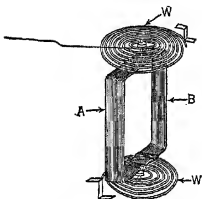
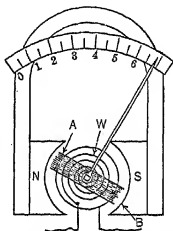

FIG. 246. Diagram showing coil *AB*, springs *W* and pointer of electrical measuring instrument.
FIG. 247. Diagram showing essential parts of milliammeter.
**133. The Milliammeter.** One type of current-measuring instrument operates on the same principle as the electric motor. In Figs. 246 and 247, the permanent horseshoe magnet with poles *N* and *S* supplies the field and a few turns of fine wire *AB* form the armature winding. The two coil springs *W* keep the pointer at the zero position when no current flows in the movable coil. Suppose, in Fig. 247, the current flows away from the reader along side *B* and toward the reader along side *A*. As explained on page 229 in connection with motor action, the clockwise circular field around *B* strengthens the field of the permanent magnet *NS* above the wires *B* and weakens it below. This urges side *B* downward. In the same way the counter-clockwise field about *A* strengthens the magnet's field below *A* and weakens it above. Thus *A* is urged upward. These two actions cause the coil to turn against the tension of the springs *W*. The